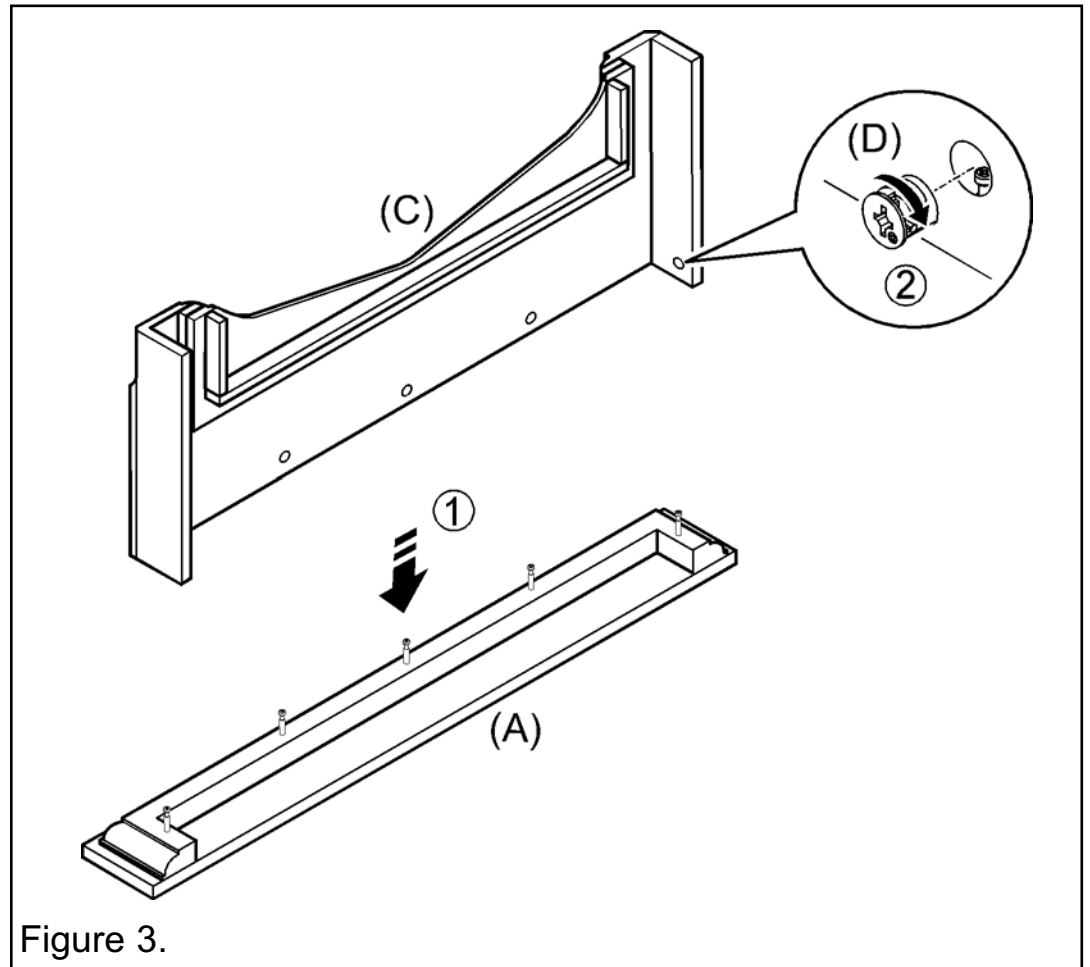

Figure 3.
- Locate the fascia (C) onto the cam bolts in surround top (A) as in figure 3.
- Secure in place using five cam locks (D) as in figure 3.